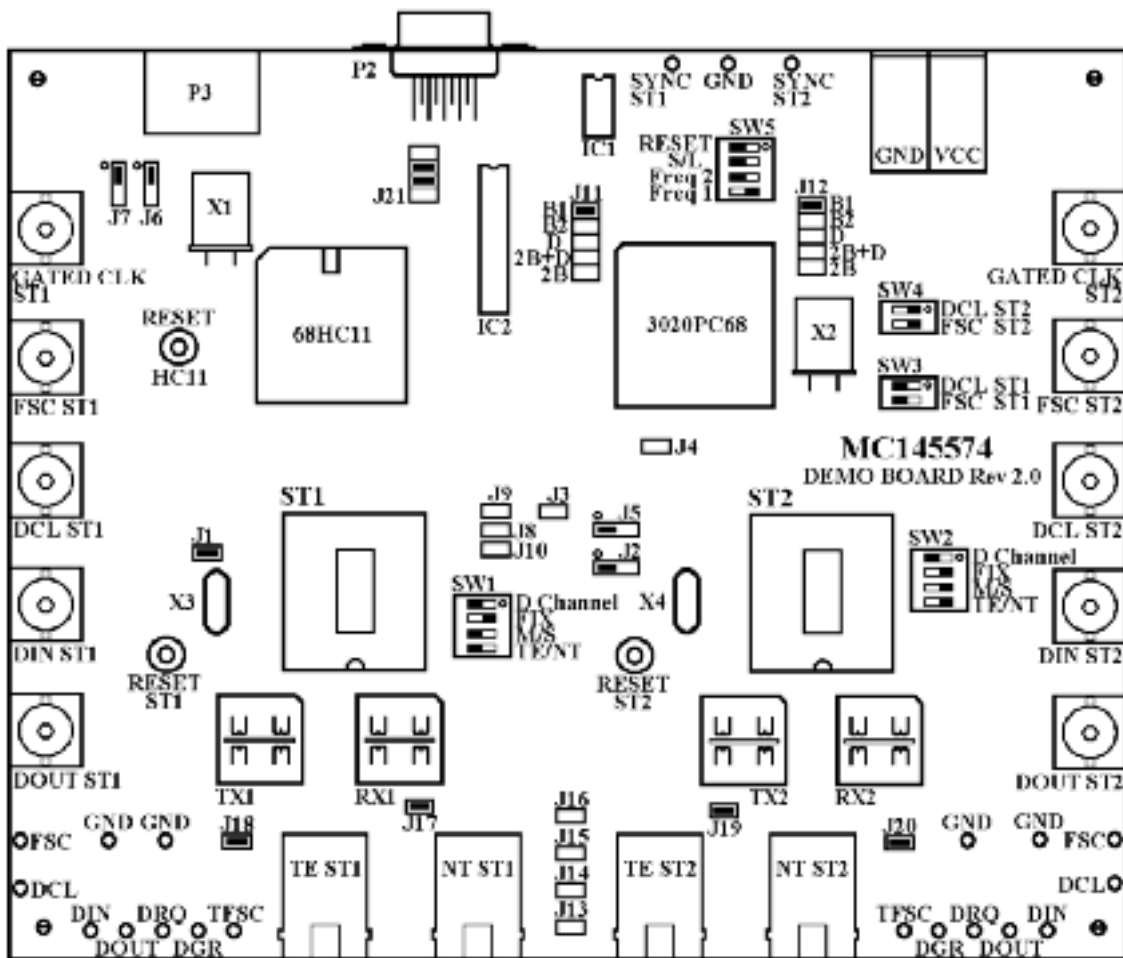

Figure 1-3. DIP Switches and Jumper Settings to Get Started
The DIP switches and the jumpers arrive preset from the factory (see Figure 1-3). Refer also to Jumpers in section 2.7 and DIP Switches Functions in Section 2.8. Do not change the position of any DIP switch until completely familiar with its function.
- (2) Verify that the DIP switches and the jumpers are set as in Figure 1-3.
- (3) Configure the bit error rate tester to transmit data on the rising edge of the data clock and receive data on the falling edge of the data clock.
- (4) Using the software on the computer, activate the ST2 with the activation option or the PF9 key. Verify that the S/T-Loop is activate by using the Display Registers option or the PF10 key. If NR2 is at 9 value, the S/T-Loop is well activated. Else, reset the two S/T interfaces and try a new activation.
- (5) On the Demo Board, put the jumper J12 on the 2B option.
- (6) Select ST1 and use Configuration menu to activate the 2B S/T Loopback.
- (7) Begin bit error rate testing.